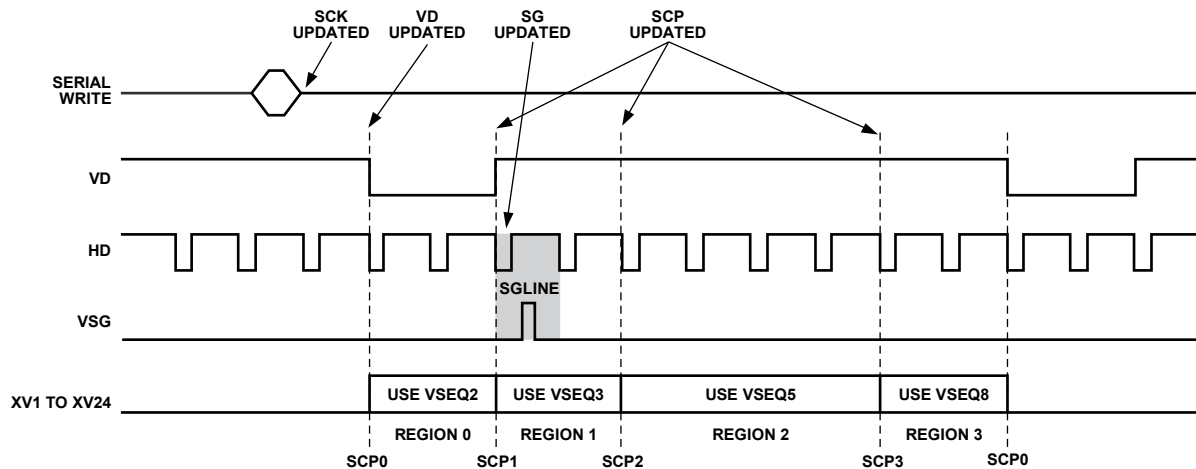

Figure 101. Register Update Locations (See Table 47 for Definitions)
- SCP Updated**—At the next SCP where they are used, the V-pattern group and V-sequence registers are updated. For example, in Figure 101 this field has selected Region 1 to use VSEQ3 for the vertical outputs. This means that a write to any of the VSEQ3 registers, or any of the V-pattern group registers, which are referenced by VSEQ3, updates at SCP1. If multiple writes are done to the same register, the last one done before SCP1 is the one that is updated. Likewise, register writes to any VSEQ5 registers are updated at SCP2, and register writes to any VSEQ8 registers are updated at SCP3.
It is recommended that the registers in the configurable address area not be written within 36 pixels of any HD falling edge where a sequence change position (SCP) occurs. See Figure 91 and Figure 92 for an example of what this inhibit area looks like in master and slave modes. This restriction applies to the V-pattern, V-sequence, and field registers. As shown in Figure 101, writing to these registers before the VD falling edge typically avoids loading these registers during SCP locations.